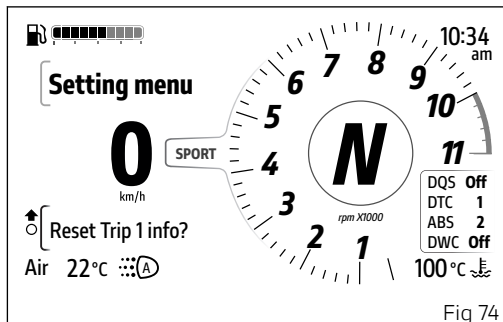

Fig 74
The trip information "Trip 1", "Ø cons.1", "Ø speed 1" and "Trip 1 time", when selected, can be reset by pressing the ENTER button (3): the message "Reset Trip 1 info?" is displayed (Fig 74).